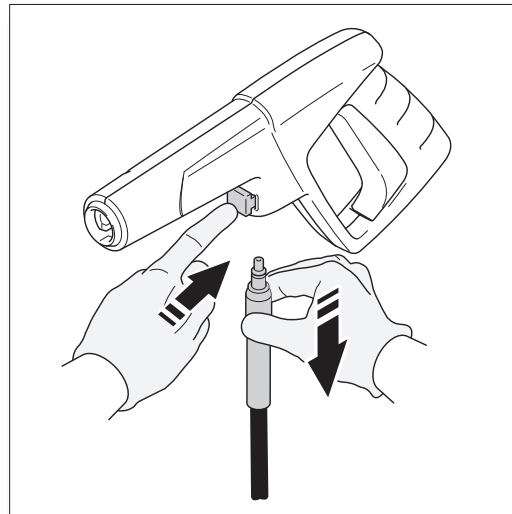

Fig.6
- To release the hose from the spray gun, press the button on the underside of the gun toward the trigger guard. The hose will slide out from the connection (**Fig. 6**).